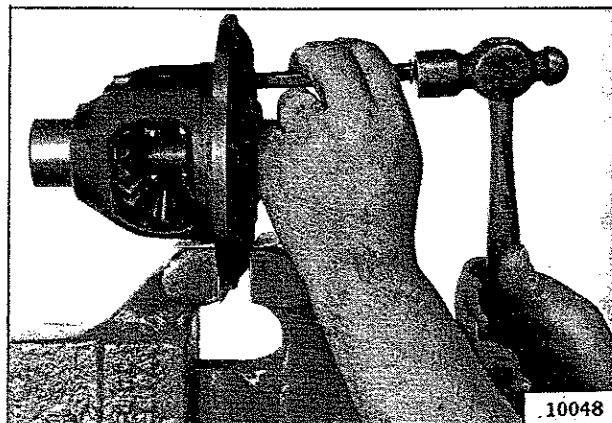

FIG. N-16—REMOVING LOCK PIN
- With a small punch, as shown in Fig. N-16, drive out the lock pin.